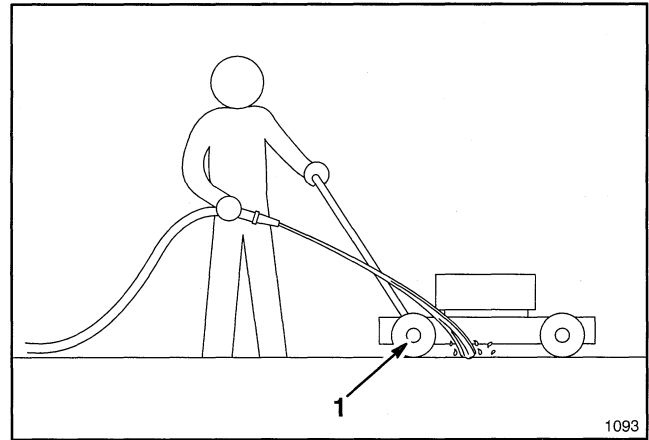

Figure 26
3. Hold the running garden hose at handle level and direct water to flow on ground just in front of right rear tire (Fig. 26). The rotating blade will draw water under the deck and wash out clippings. Let the water run for a few minutes or until you no longer see clippings being washed out from under deck.